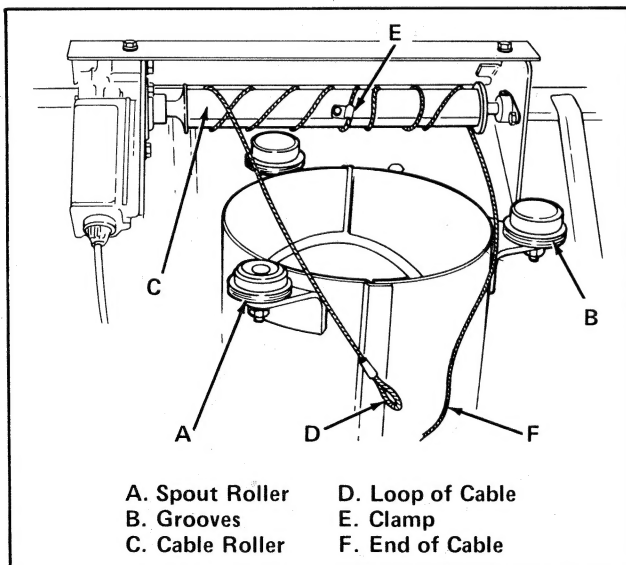

Figure 17. Spout Assembly
1. Remove spout roller (item A, figure 17). You will have to remove cap from roller so a wrench can be used to hold inside capscrew while removing roller.